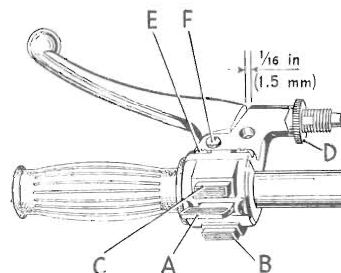
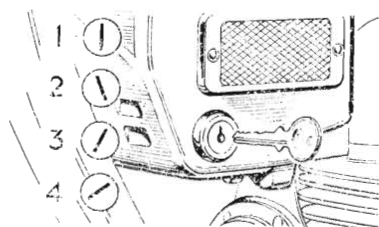

FIGURE 3.
FIGURE 4.
CLUTCH:—The lever is mounted on the left handlebar and its position can be adjusted after slackening off the screws (E) Fig. 3. The looseness of the lever is adjusted by rotation of screw (F) Fig. 3, after slackening its locknut. Grip the lever to free the clutch (i.e., disengage the drive between the motor and the rear wheel). Finger adjustment for the clutch cable is provided at the adaptor (D) Fig. 3, on the lever. A greasing point is provided in the cable at (B) Fig. 23. Provision is made on the lever body for fitting a Motoplas rear view mirror.
MASTER ELECTRICAL SWITCH (except Moto-cross models):—This is incorporated in the electrical box beneath the tank, on the left side of the machine (Fig. 4). The key is detachable in two of the four positions, but cannot be withdrawn from the remaining two, viz:
HORN, HEADLIGHT DIP SWITCH, HEADLIGHT FLASHER SWITCH:—These are combined in a triple switch unit on the left handlebar as part of the clutch lever body. The unit (and the control lever) can be adjusted for position after slackening the screws (E). The horn push button is at (B), and the headlight flasher switch at (C) FIG. 3.
HEADLIGHT SWITCH:—The headlight main beam is illuminated when the rotary switch on the lamp body is turned. A separate switch (A) FIG. 3, on the left handlebar controls the dipping of the beam and the master electrical switch (FIG. 4) controls the pilot light.
Switch on the ignition by turning the key in a clockwise direction to position "3" as shown in Fig. 4.
Select the neutral gear position and close the throttle, so reducing the motor speed to "tick-over", and turn the master electrical key to the position shown as "1", Fig. 4.